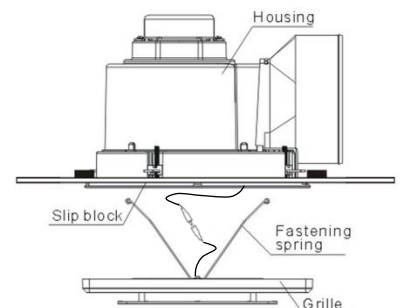

Fig. 4 – Fix the fan in place and install cover
11. Position fan in hole and with screwdriver, rotate mounting screws until slip blocks firmly secure fan onto ceiling plaster. *Do not over-tighten.* (Fig 4)
12. Replace front fascia by locating spring hole slots in body or fan. (Fig 4)